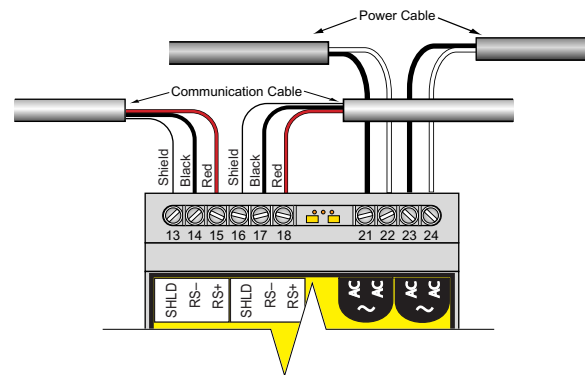

Figure 3. Power and Telemetry Connections
TTSIM-1A communicates all alarm and status messages via RS-485 shielded twisted pair telemetry. Two of the four conductors in the power/telemetry cable are used for telemetry and the other two wires may be used to provide the supply voltage. Alternatively, separate wiring may be used for the supply voltage, as shown in Figure 3.
- Strip the primary wires to expose approximately 6 mm (1/4 in) of conductor and make the following connections: (see Figure 3)